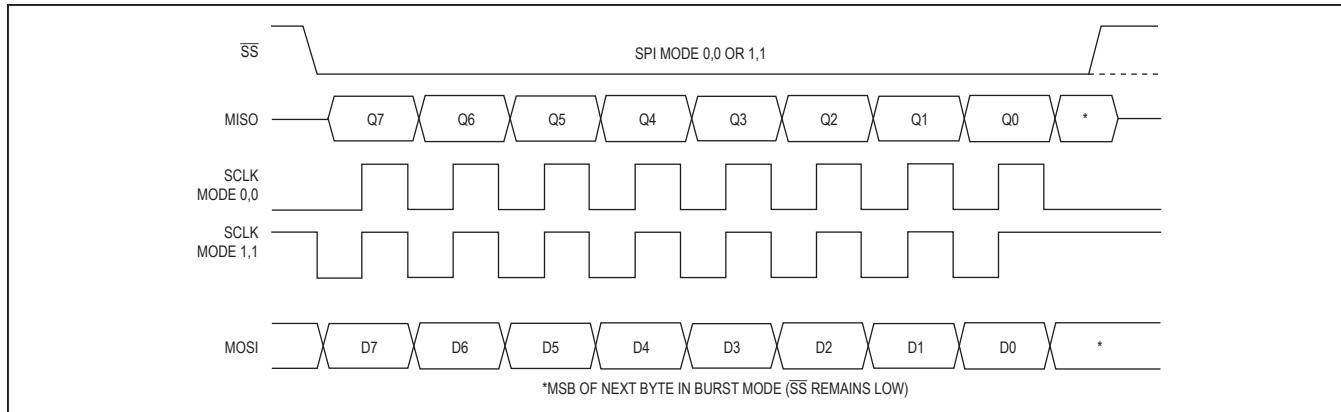

Figure 14. SPI Clocking Modes
The SPI master provides the MAX3420E SCLK signal to clock the SPI interface. SCLK has no low-frequency limit, and can be as high as 26MHz. The MAX3420E changes its output data (MISO) on the falling edge of SCLK and samples input data (MOSI) on the rising edge of SCLK. The MAX3420E ignores SCLK transitions when $\overline{\text{SS}}$ is high. The inactive level of SCLK may be low or high, depending on the SPI operating mode (Figure 14).
The MAX3420E SPI interface operates without adjustment in either SPI mode ($\text{CPOL} = 0$, $\text{CPHA} = 0$) or ($\text{CPOL} = 1$, $\text{CPHA} = 1$). No mode bit is required to select between the two modes since the interface uses the rising edge of the clock in both modes. The two clocking modes are illustrated in Figure 14. Note that the inactive SCLK value is different for the two modes. Figure 14 illustrates the full-duplex mode, where data is simultaneously clocked into and out of the MAX3420E.
- (1) When \overline{SS} is high, the MAX3420E is unselected and three-states the MISO output.
- (2) After driving SCLK to its inactive state, the SPI master selects the MAX3420E by driving \overline{SS} low. The MAX3420E turns on its MISO output buffer and places the first data bit (Q7) on the MISO output (Figure 14).
- (3) The SPI master simultaneously clocks the command byte into the MAX3420E MOSI pin, and USB status bits out of the MAX3420E MISO pin on the rising edges of the SCLK it supplies. The MAX3420E changes its MISO output data on the falling-edges of SCLK.
- (4) After eight clock cycles, the master can drive \overline{SS} high to deselect the MAX3420E, causing it to three-state its MISO output. The falling edge of the clock puts the MSB of the next data byte in the sequence on the MISO output (Figure 14).
- (5) By keeping \overline{SS} low, the master clocks register data bytes out of the MAX3420E by continuing to supply SCLK pulses (burst mode). The master terminates the transfer by driving \overline{SS} high. The master must ensure that SCLK is in its inactive state at the beginning of the next access (when it drives \overline{SS} low). In full-duplex mode, the MAX3420E ignores data on MOSI while clocking data out on MISO.